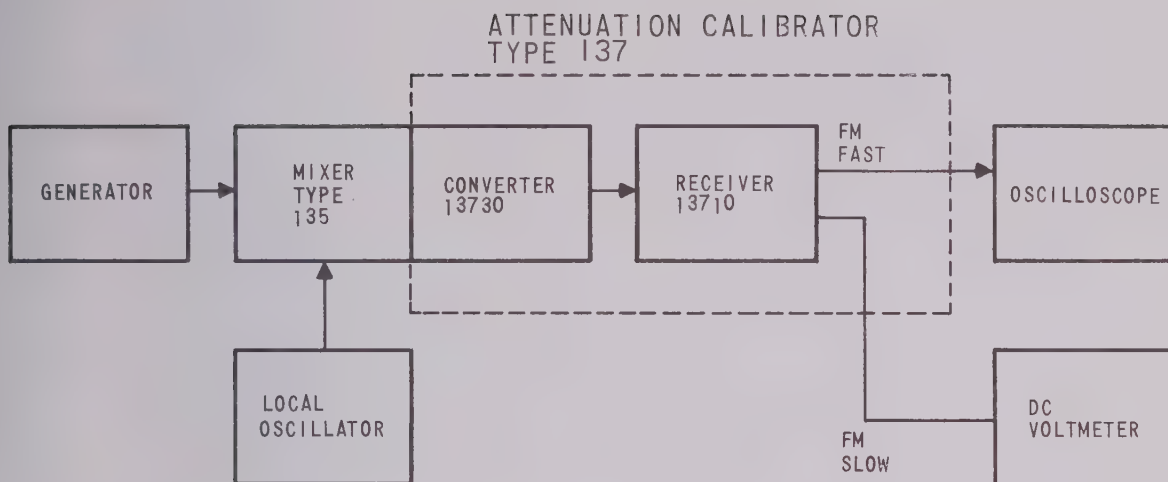

FIGURE 4-4. FREQUENCY DEVIATION MEASUREMENT SETUP
The basic frequency deviation measurement setup is shown in Figure 4-4. In this system, a frequency discriminator converts the change in the frequency of the second IF signal to a proportional change in voltage. The nominal second intermediate frequency, f_{IF} , is 30 MHz. This frequency is generated in the double frequency conversion process.
- e. Monitor FM SLOW and FM FAST outputs in back of receiver as shown in Figure 4-4.